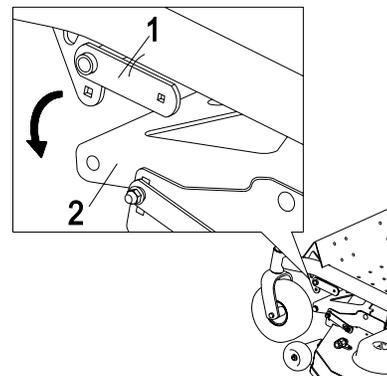
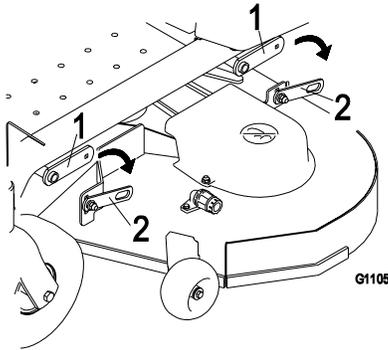

Figure 45
Figure 46
4. Remove the hardware from the deck hanger and deck lift arm on both sides of the deck (Figure 45).
- Remove the nut, bolt, and pivot bushing from the deck strut (Figure 45). Carefully lower the front of the mower deck to the ground (Figure 46).
- Pull the idler pulley in the direction shown in Figure 45 and roll the belt off of the pulleys.
- Use the existing hardware to attach the rear deck strut of the mower to the deck lift arm (Figure 46).
- Attach the hardware from the deck hanger and deck lift arm on both sides of the deck (Figure 45).